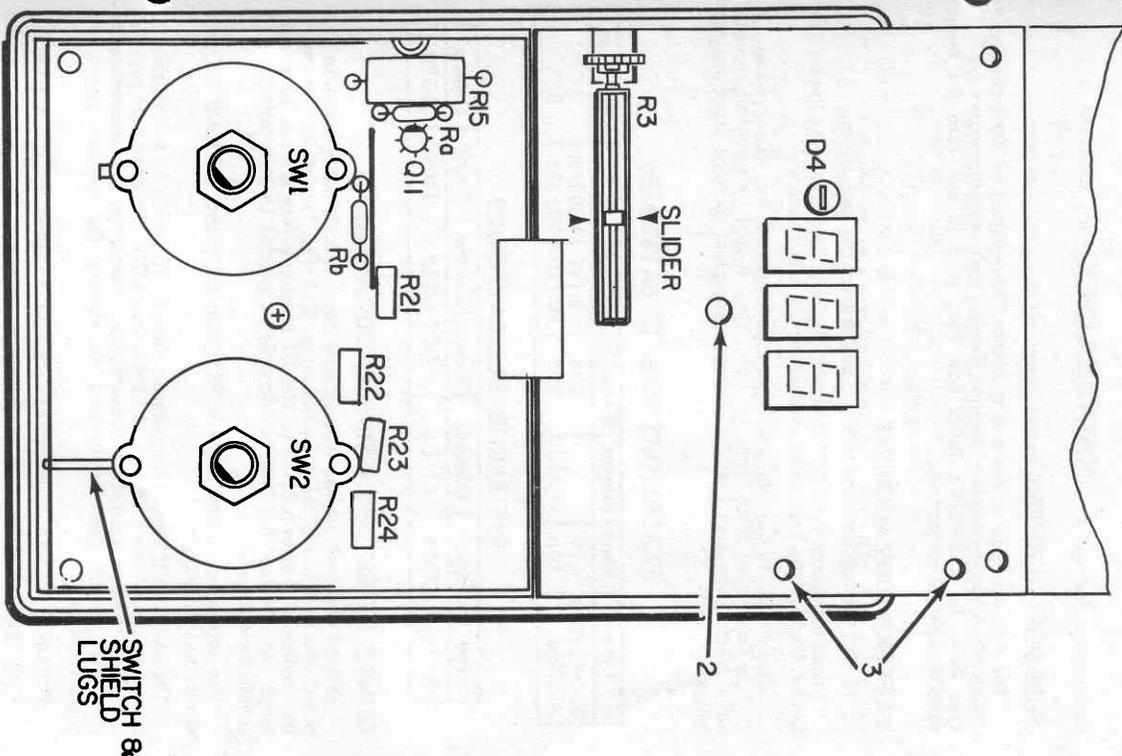

Fig. 5.
## MODEL 280 CALIBRATION PROCEDURE (Refer to Fig. 5 for Location of Internal Adjustments)
3. Apply +2mVDC to input and adjust R22 for a zero reading. The input to the unit is applied by connecting the positive lead of the voltage source to the temporary (+) input terminal and the negative lead to the SW2 shield lug (Fig. 5).
Should this part require replacement due to accidental application to a power source in the 1000 $\Omega$ 2 or 1000 $\Omega$ 2 range, R15 (Fig. 5) must be replaced. If the reading of a known 820 $\Omega$  to 1000 $\Omega$  resistor is very low on the 1000 $\Omega$  range and the unit has been accidentally connected to high voltage, R15 should be replaced.
- (1) Loosen captive screw and remove rear cover.
- (2) Remove batteries.
- (3) Unsolder the + jack from the P.C. board through access hole below.
- (4) Remove 4 screws on bottom of housing and remove top cover.
- (5) Remove knobs and lift shield clear of unit.
- (6) Remove 1 screw (#2, Fig. 5) below the middle digit.
- (7) Unsolder battery terminals from P.C.B. at (#3, Fig. 5) and move P.C.B. up and far enough to gain access to R15.
- (8) R15 is located at the top left side of the bottom P.C. board mounted in two standing terminals. Cut R15 out and solder replacement to terminals.
- (9) For re-assembly, reverse the above steps.